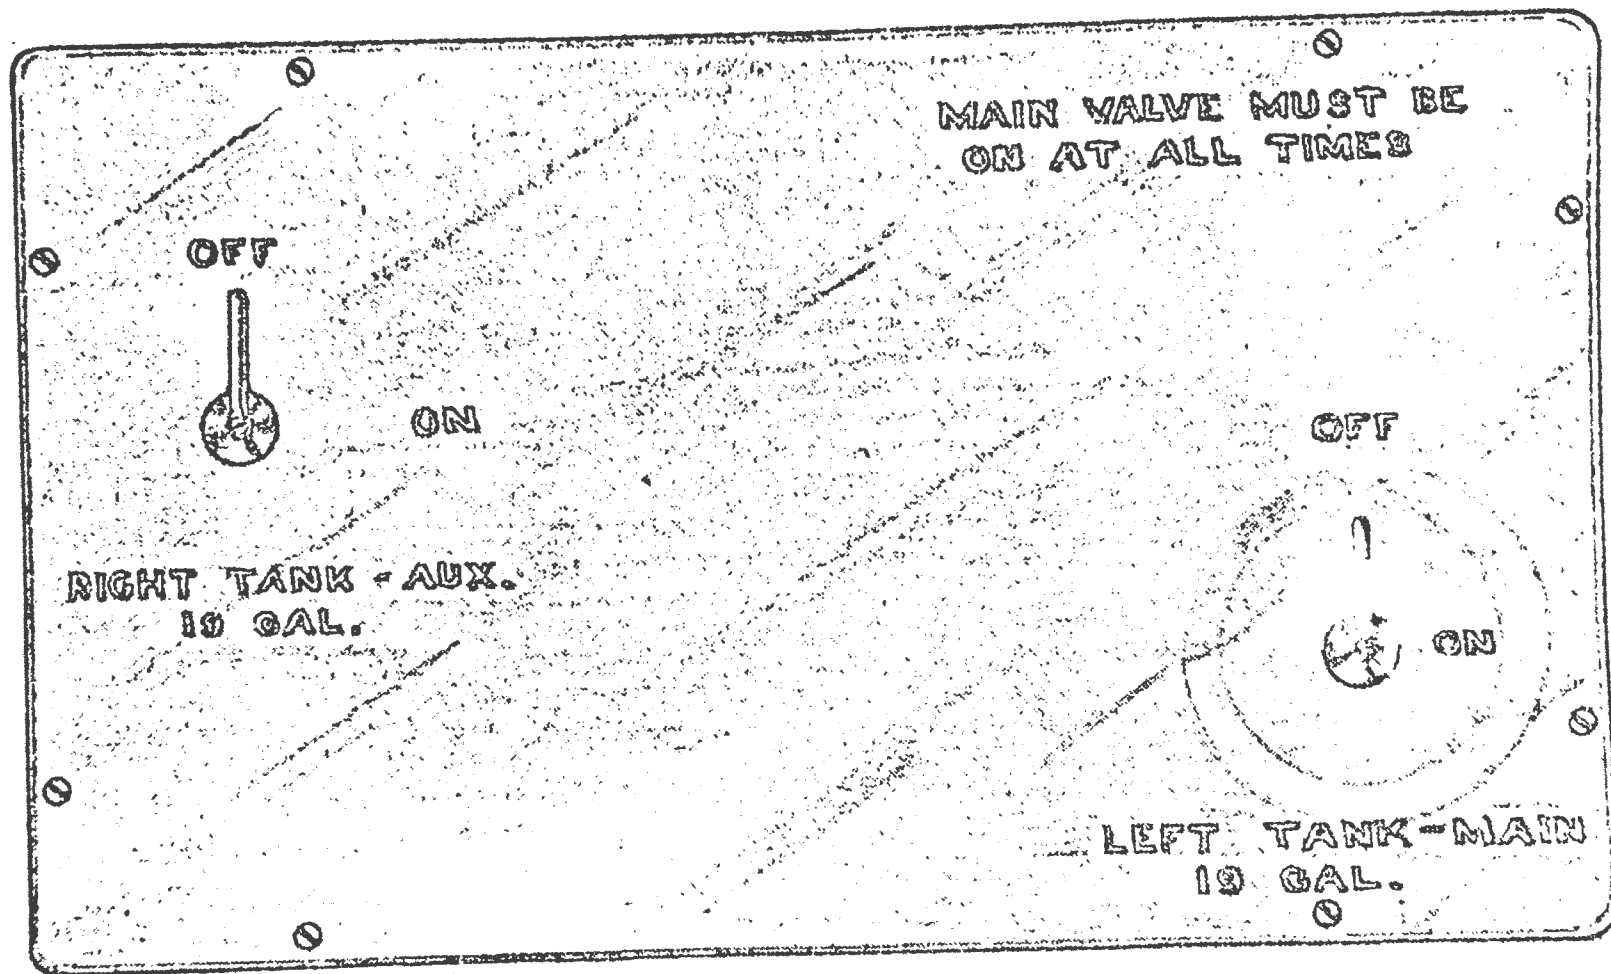

FIG. 2
1. LEFT TANK-MAIN valve must be on all the time during flight. (See Figure 2).